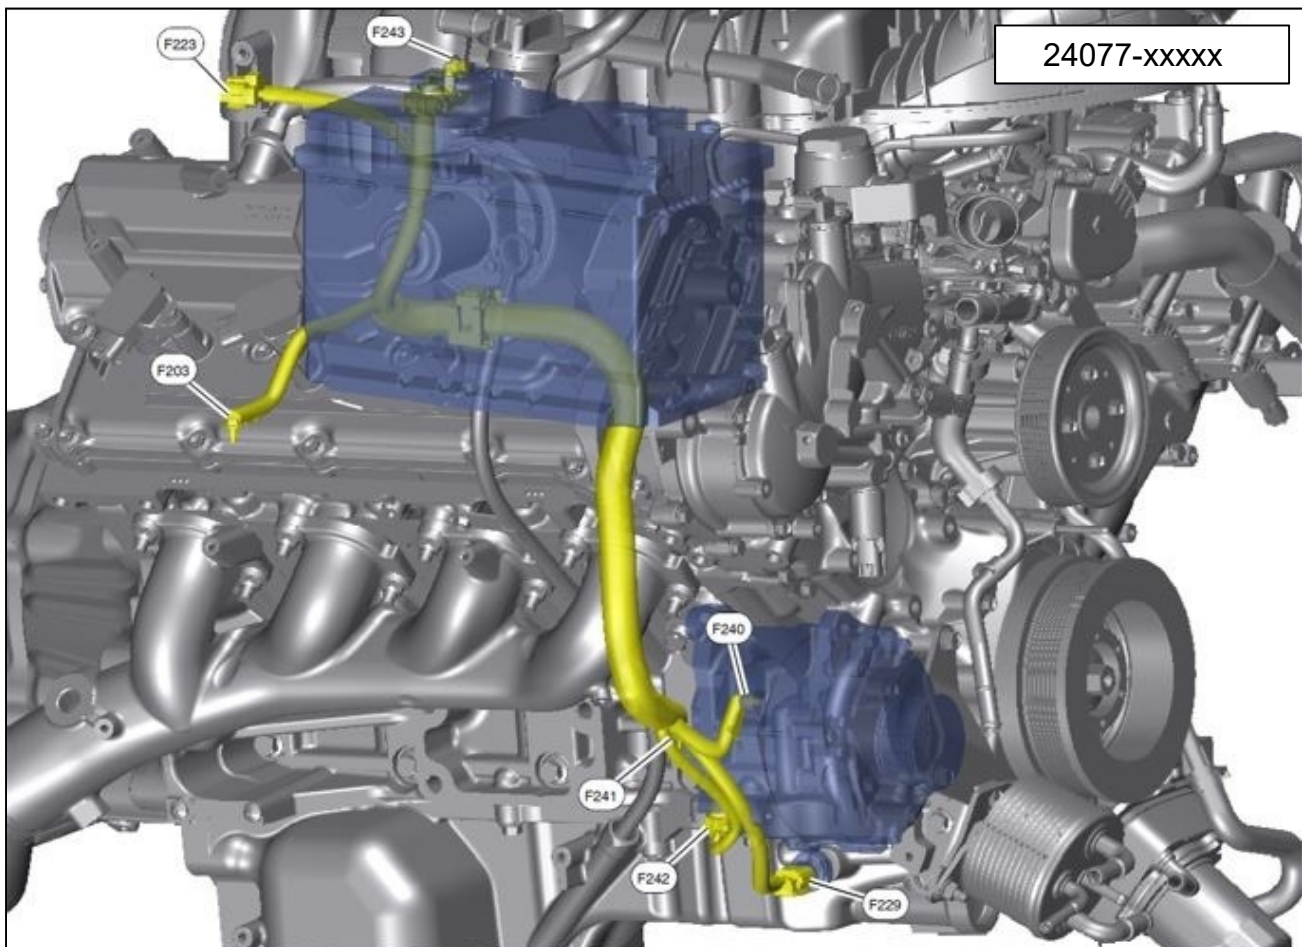

Figure 7
- If there is **VISIBLE DAMAGE** to any of the individual wires within the generator harness, replace the generator harness shown in Figure 7 and highlighted in yellow. Skip to step 7.